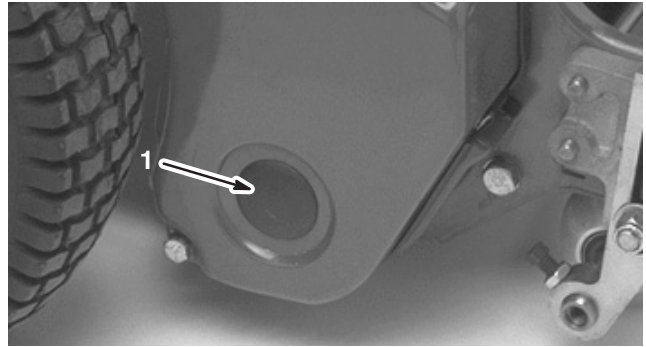

Figure 49
1. Remove the plug in the right reel drive cover (Fig. 49).